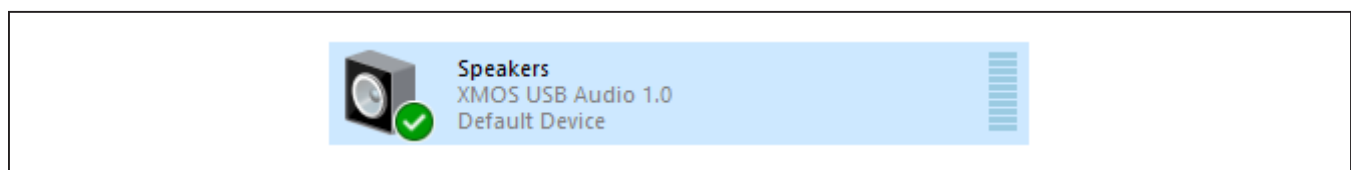

Figure 3. Playback Device
- 6) Open the Windows’ **Sound** dialog and select the **Playback** tab. A **USB Audio DAC** item, similar to Figure 3, should be listed as an available playback device.